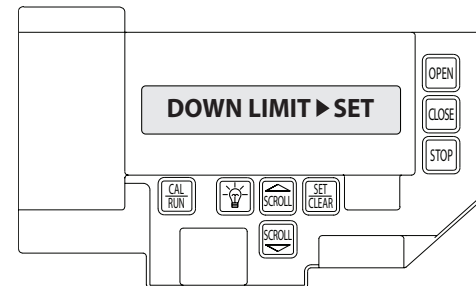

Figure 7
- 4) Press SET/CLEAR  key to switch display to "UP LIMIT>SET " or "DOWN LIMIT>SET ." **Figure 7.**
- 2) Press SCROLL  until display reads "UP LIMIT>SET " or "DOWN LIMIT>SET." **Figure 7.**